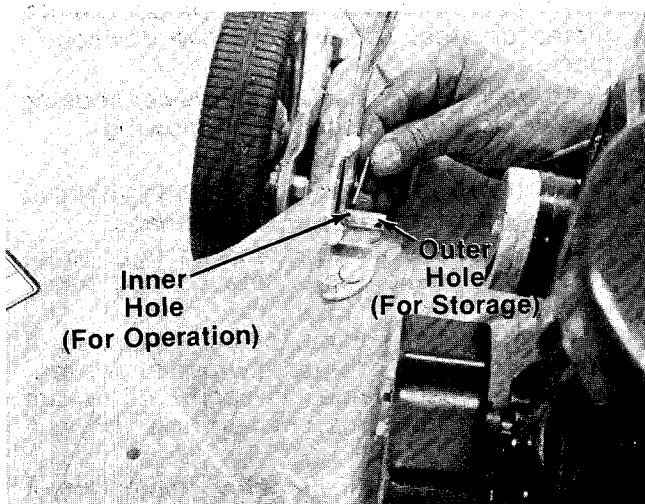

FIGURE 3.
There are two (2) holes in the handle mount brackets. Place the lower handle against the brackets and secure with hairpin cotter in the inner hole. Inner hole is for operation. Outer hole is for storage. See figure 3.